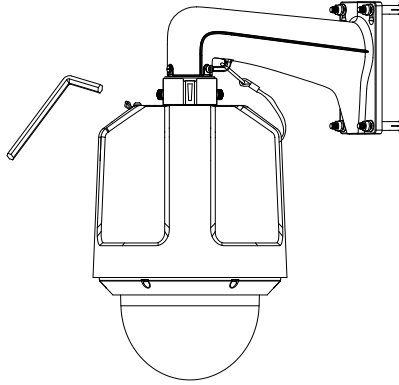

Figure 2-5 Secure the Speed Dome
- 5) Secure the two lock screws with the wrench as shown in Figure 2-5.